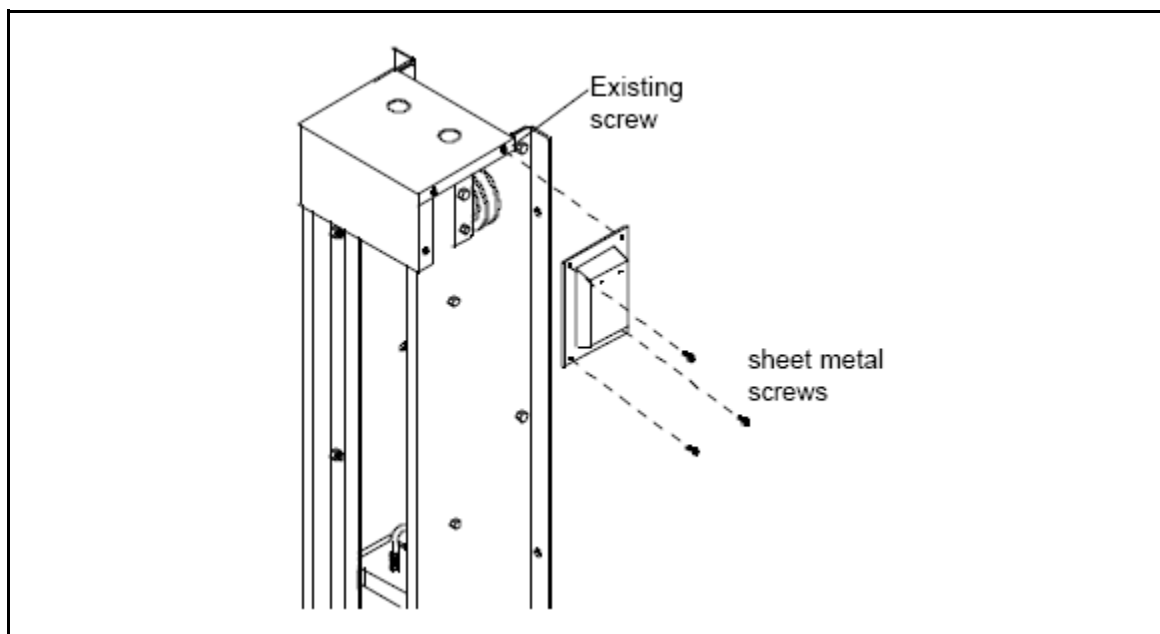

Figure : 5B
Step 4: Remove existing sheet metal screw. (See Figure 5B for pulley cover fastening)